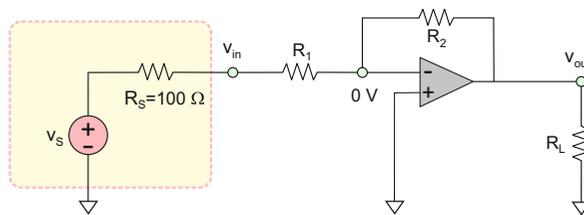

Fig. 5.20. A  $100\ \Omega$  sensor connected to the inverting amplifier. Note the common connections.
**Solution:** The corresponding circuit is shown in Fig. 5.20. The input voltage to the amplifier circuit is computed by voltage division:
**Solution:** With reference to Fig. 5.20, the input voltage to the amplifier is again given by Eq. (5.36). This equation is further transformed to